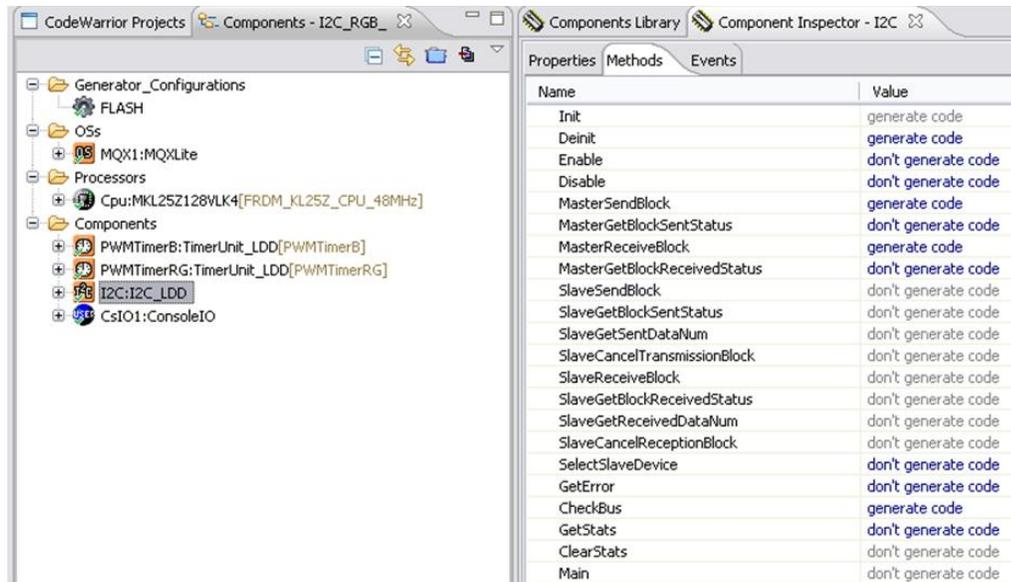

Figure 31. The “I2C” methods creation definition
12. For the "I2C_LDD" components it is necessary to define the functions to be added by the auto-generated code. To do this click in the "Methods" tab under the Component Inspector. Figure 31 illustrates the right configuration for the methods creation.